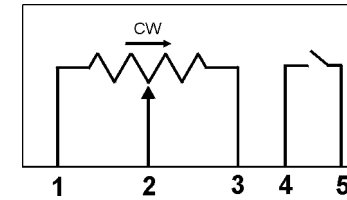

Figure 2: W-LM Wiring Connections
1. Connect the cabling to the removable portion of the terminal block paying attention to the wiring diagram shown in Figure 2 and Table 2.
Figure 2 shows the wiring connections of the **W-LM**.